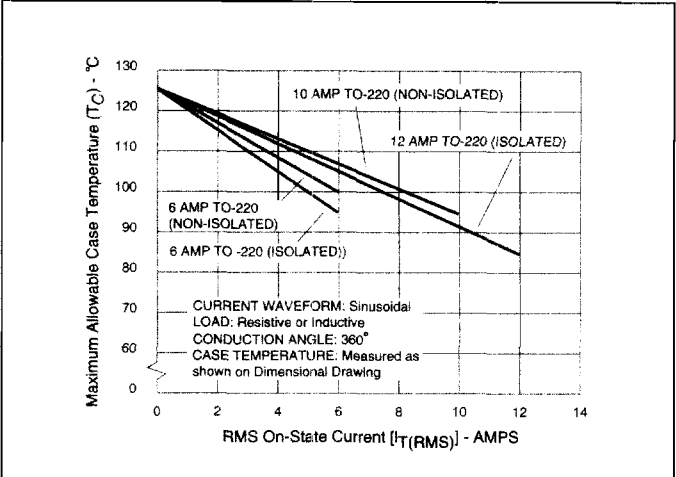
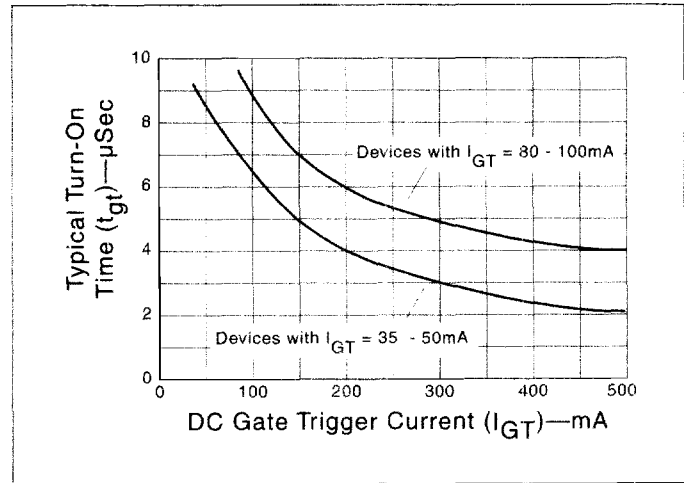

Figure 4.1 Maximum Allowable Case Temperature vs On-State Current (6-12 Amp Devices)
Figure 4.12 Turn-On Time vs Gate Trigger Current (Typical)
- (1) For either polarity of MT2 with reference to MT1 terminal.
- (2) For either polarity of gate voltage ( $V_{GT}$ ) with reference to MT1 terminal.
- (3) See Definition of Quadrants.
- (4) See Figures 4.1 through 4.4 for current rating at specific operating temperature.
- (10) See Figure 4.12 for  $t_{gt}$  vs  $I_{GT}$ .
- (11) See package outlines for lead form configurations. When ordering special lead forming, add type number as suffix to part number.
- (12) Initial on-state current = 400 mA(DC) for 15-40A devices and 100mA for 6-12 Amp devices.
- (13) See Figures 4.1 through 4.4 for maximum allowable case temperature at maximum rated current.
- (14) Pulse width  $\leq 10\mu s$ .
- (15) For 6-12 Amp devices,  $R_L = 60\Omega$ ; 15 Amp and above,  $R_L = 30\Omega$
- (16) 40 Amp pin terminal leads on K package can run 100°C to 125°C.
- (17) Alternistor does not turn on in Quadrant IV.
- (18)  $T_C = T_J$  for test conditions in off-state
- (19)  $I_{GT} = 200$  mA for 6-12 Amp devices and 500 mA for 15-40 Amp devices with gate pulse having rise time of  $\leq 0.1$  microsecond.